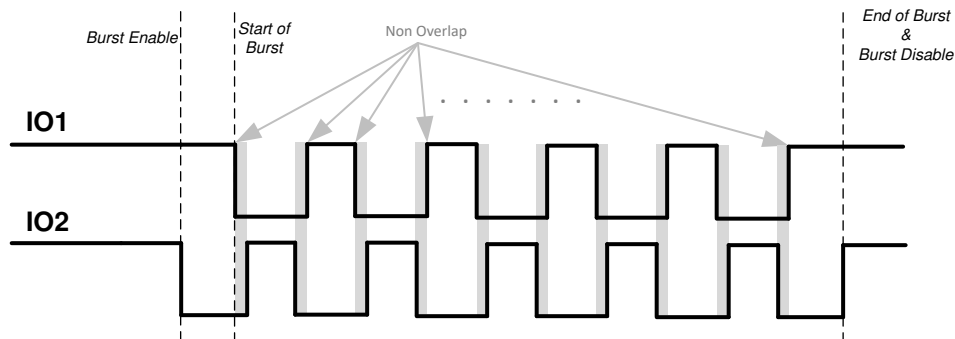

图 17. IO_MODE 2 Description
- IO_MODE = 2:** In this mode both IO1 and IO2 are used to control OUTA and OUTB. The burst enable is triggered when either IO1 or IO2 transitions from high to low. Start of burst (OUTA and OUTB changing state) happens only at the next falling edge of IO1. 图 17 shows the case where a high-to-low transition on IO2 is used to enable the burst. A burst is emulated when IO1 and IO2 are toggled in a non-overlapping sequence. After the start of burst, the state of OUTA and OUTB pins are determined by IO1 and IO2 pins as shown in 表 21. During a burst, if there is a condition where both IO1 and IO2 are high for more than half period of the internal clock f_{INT_CLK} (caused by differential delays due to PCB parasitics or MCU code), an end of burst and burst mode disable will be triggered. Any falling edge just after this condition will be ignored to toggle OUTA and OUTB as it would be considered as a new burst enable signal. A systematic condition of overlap can cause a continuous end of burst trigger such that OUTA and OUTB do not toggle even though IO1 and IO2 are toggling. TI recommends no overlap or minimum non-overlap between the IO1 and IO2 signals when measured at the pins. BURST_PULSE has no effect in this mode.